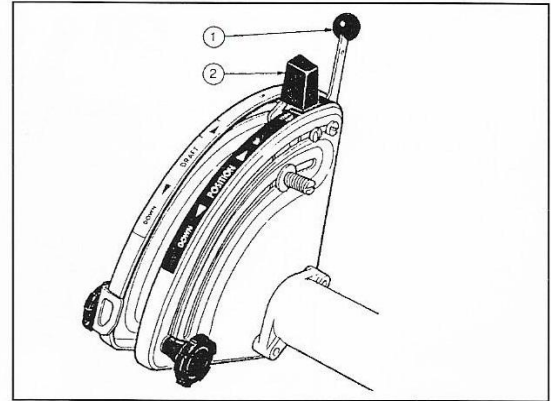

Fig. 48 Transport
Draft Control Lever, (1, Fig. 48) in the fully UP position. Position Control Lever (2), placed in the TRANSPORT position against the stop. This will lift the linkage and implement and hold in the raised position.